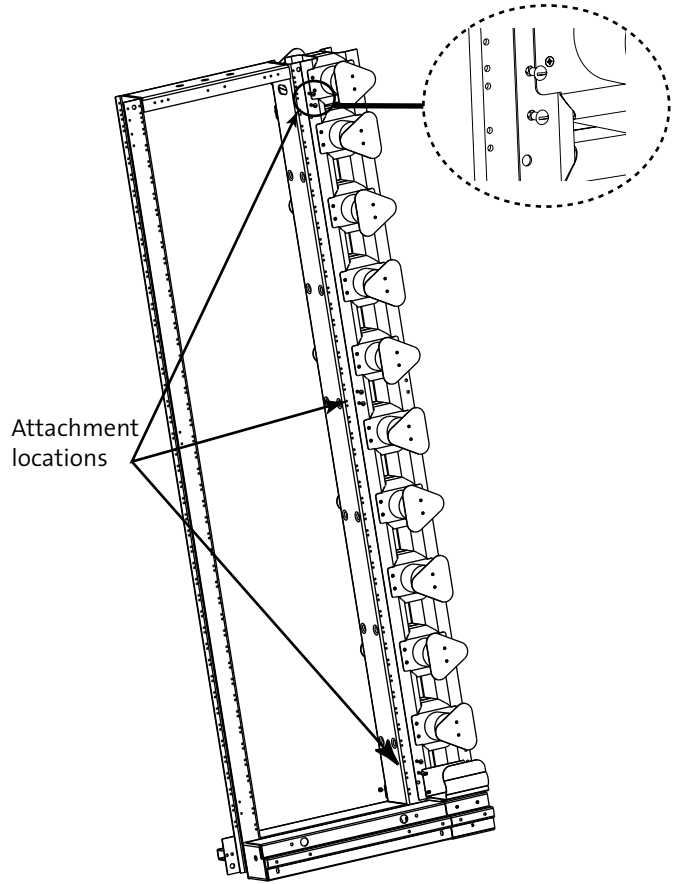

Figure 5
**Step 1:** Mount the IBD directly to the front flange of the equipment rack in the locations shown in Figure 5. Attach the two together using the 12-24 screws provided.